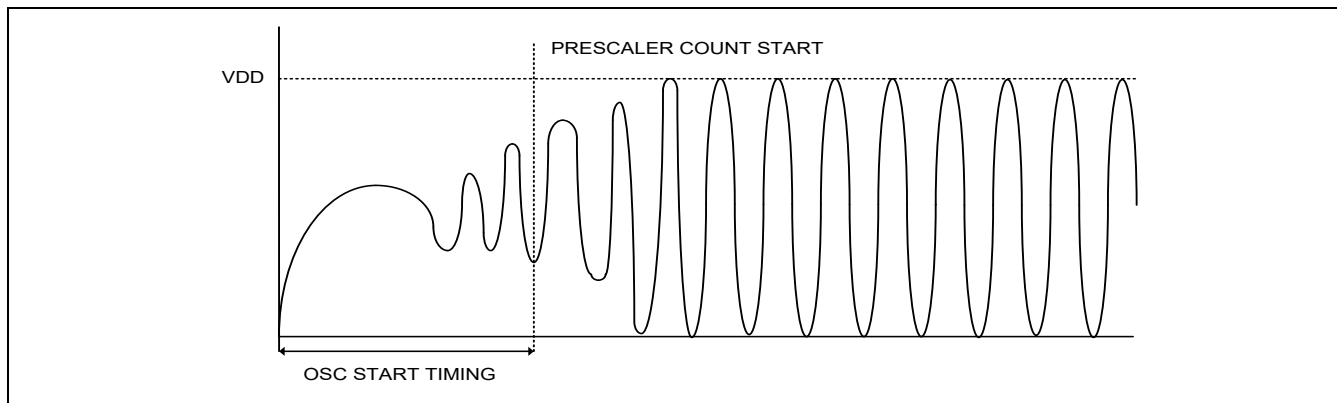

Figure 13.7 Oscillator generating waveform example
1. As shown Figure 13.7, the stable generating time is not included in the start-up time.